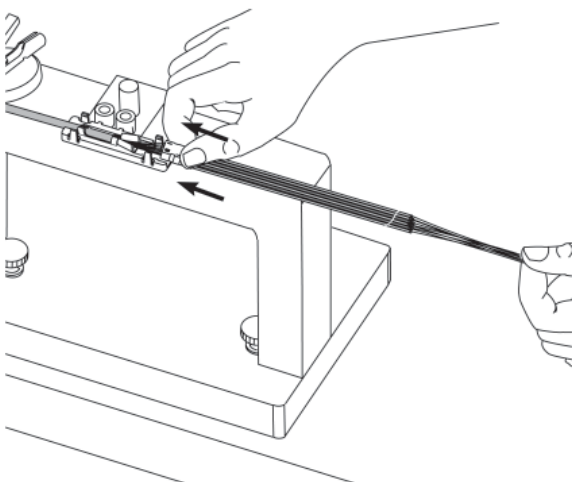

Figure 18
7.7 Carefully slide the assembly while gently pulling the bare fibers protruding from the 900 μm tube ends until the assembly is above the fan-out body (Figure 18).